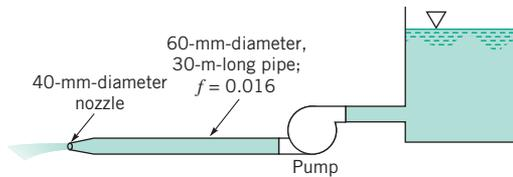

FIGURE P8.81
**8.81** The pump shown in Fig. P8.81 adds 25 kW to the water and causes a flowrate of  $0.04 \text{ m}^3/\text{s}$ . Determine the flowrate expected if the pump is removed from the system. Assume  $f = 0.016$  for either case and neglect minor losses.